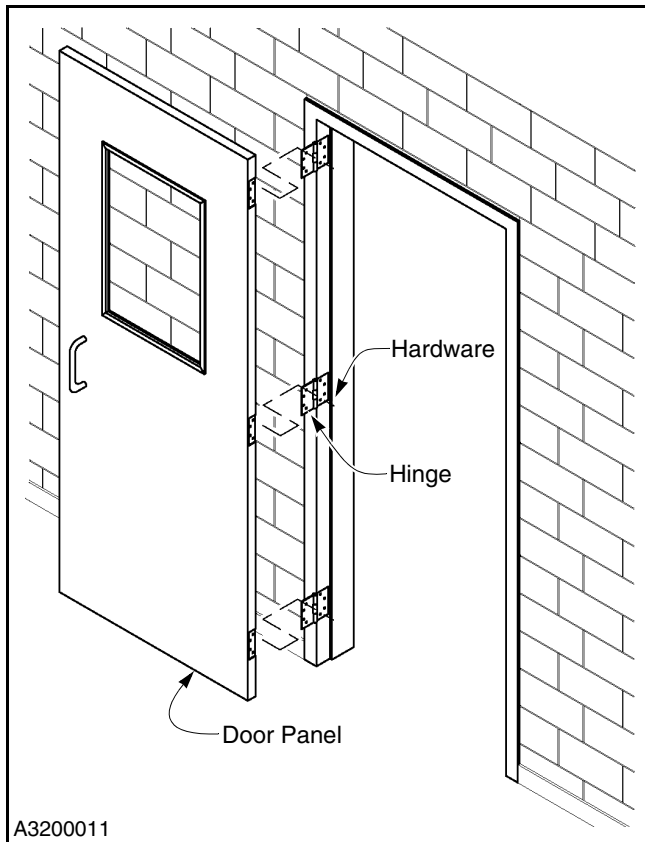

Figure 41
2. Align door panel with hinges and install hardware. (See Figure 41.)